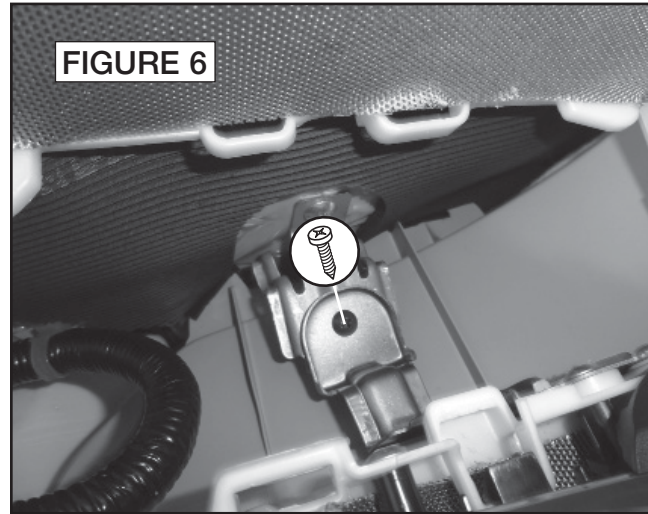

FIGURE 6
8. Remove two (2) phillips screws securing hazard switch assembly to receiver faceplate and remove assembly (Figure 6).
6. Remove one (1) phillips screw exposed by removal of power switch panel (Figure 6).
6. Pry out sides of rear side panel to release nine (9) clips. Disconnect wiring harness and remove rear side panel (Figure 6).